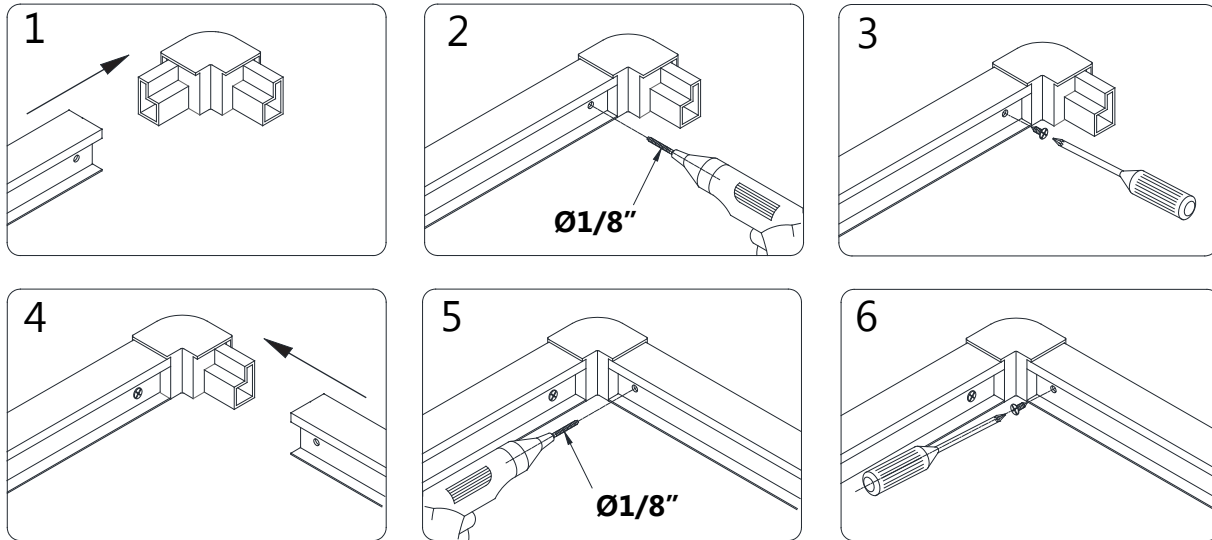
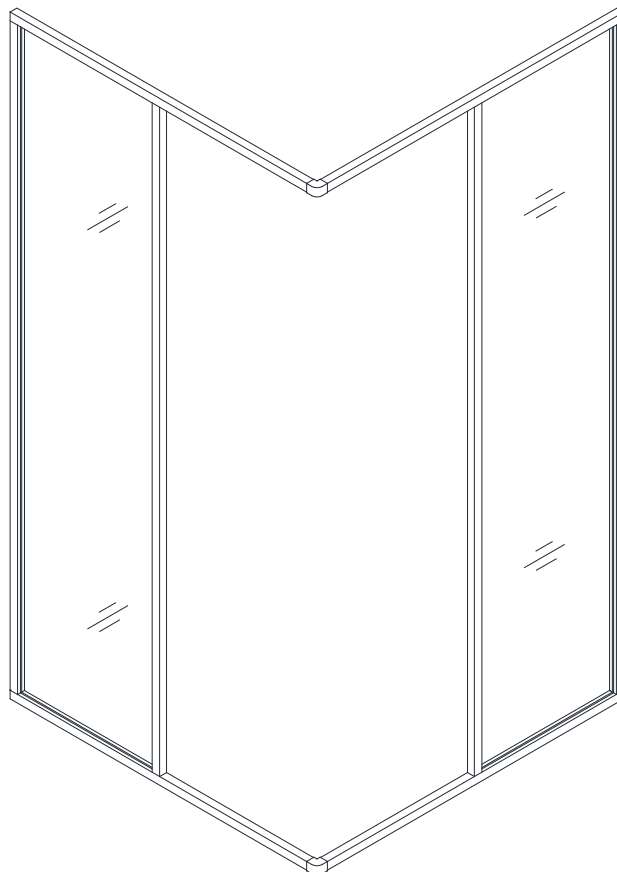

Fig 3a
Fig 3b
3. Insert the **Rail Connector (#04)** into the guide rails of the **Stationary Glass Assembly (#02)**. Drill a hole into the outer layer of the **Rail Connector (#04)**, through the predrilled hole in the guide rails using an **Ø1/8"** drill bit. Fasten the top and bottom **Rail Connector (#04)** to the guide rails with the **Flat Head Screw ST4.2×10 (#06)**. (Fig 3a and Fig 3b)